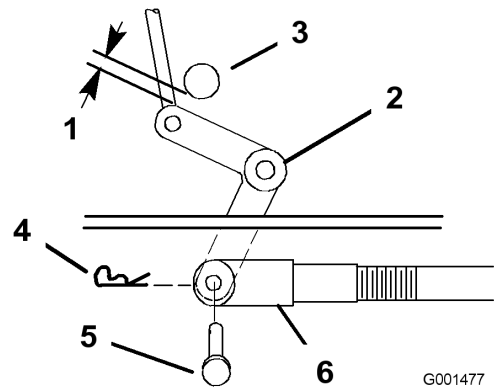
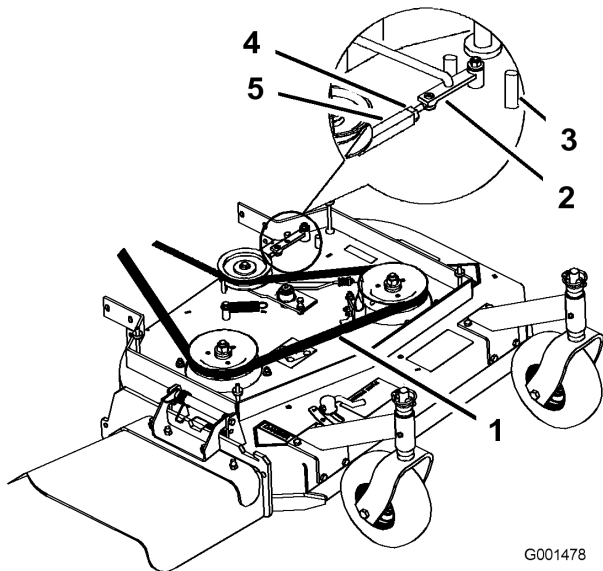

Figure 48
Figure 49
11. Rotate the clevis clockwise on the rod to increase the clearance; rotate it counterclockwise to decrease it (Figure 48).
Note: If the assist arm does not contact the front stop on the mower deck (Figure 49), adjust the clevis to bring the bell crank closer to the transmission output shaft (Figure 48).
9. Check the clearance between the bell crank and the transmission output shaft (Figure 48).
3. Loosen the locknut on the turnbuckle (Figure 49).
4. Rotate the turnbuckle toward the rear of the mower to increase the tension on the belt. Rotate the turnbuckle toward the front of the mower to decrease the tension on the belt (Figure 49).